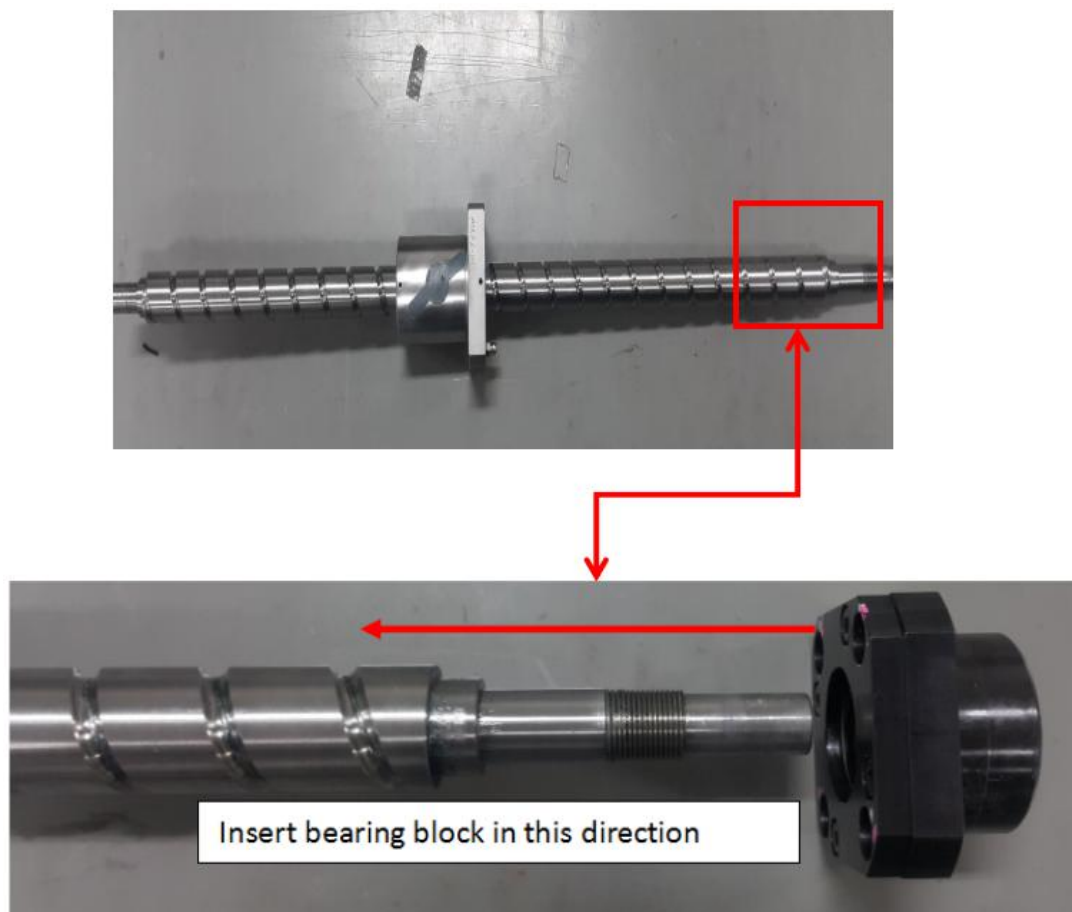

Figure 37 End Bearing Block Assembly
29. Position the end support bearing at front end of ball screw as Figure 37.